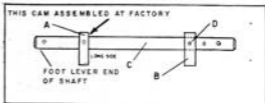

Fig. 3
1. Before assembling caster set to stand, determine which side of the stand would be most convenient for the foot levers. The foot lever end of the shaft has a cam (A) Fig. 3, assembled in-place at the factory.
3. Assemble the cams (B) on both shafts (C) at hole (D) Fig. 3. Assemble one cam on each shaft. Cams on each shaft must match when assembled, as shown in Fig. 3.